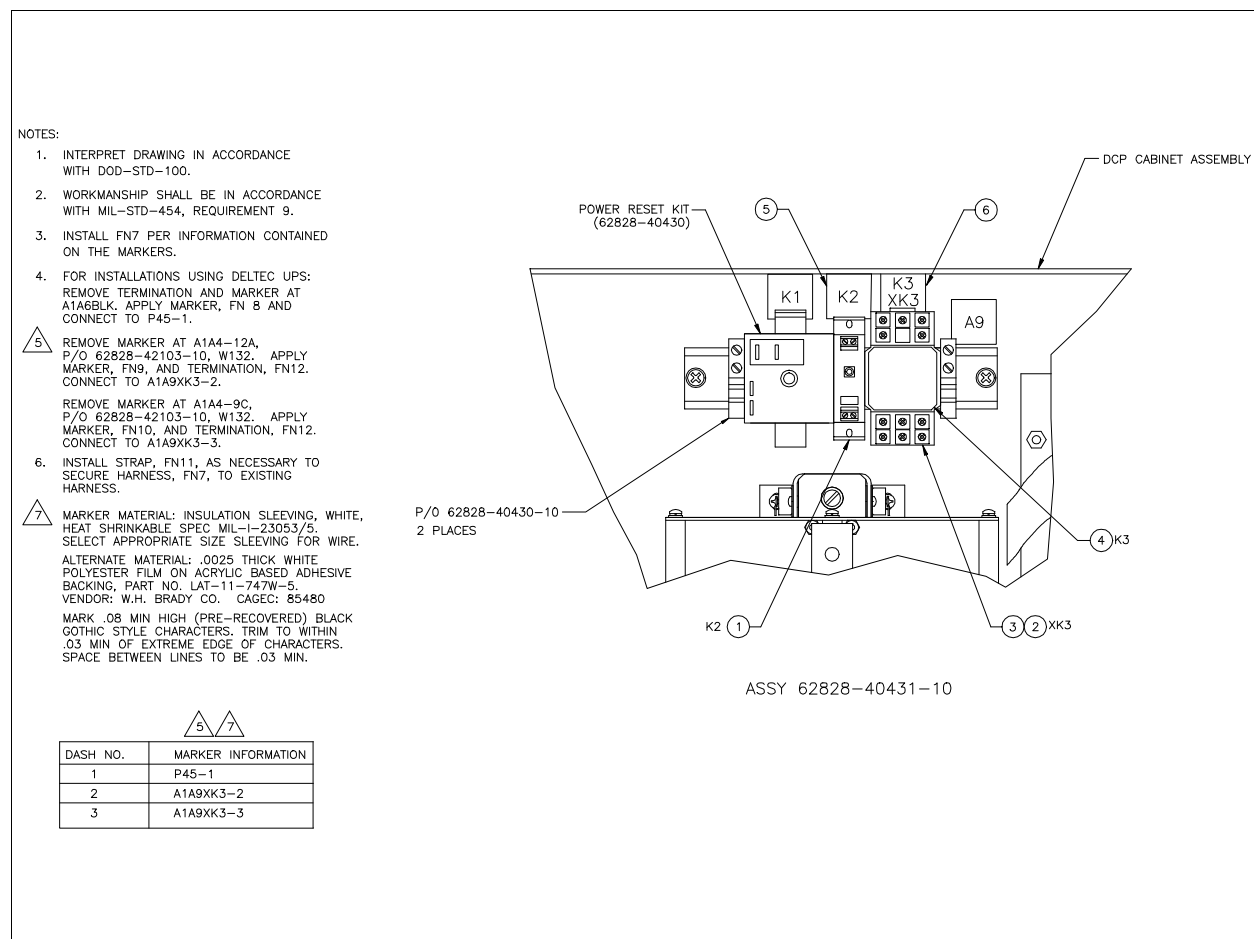

Figure 6 UPS Bypass Assembly Components and Installation
13. Slide the digital input/output (I/O) module K2 and high-power relay XK3 onto the din rail next to the power reset kit (K1). Install the end clamps on each side of the UPS bypass assembly. Refer to figure 6.
15. Reinstall the UPS bypass assembly din rail to the DCP backplate and install the UPS bypass labels above each module as shown in figure 6.